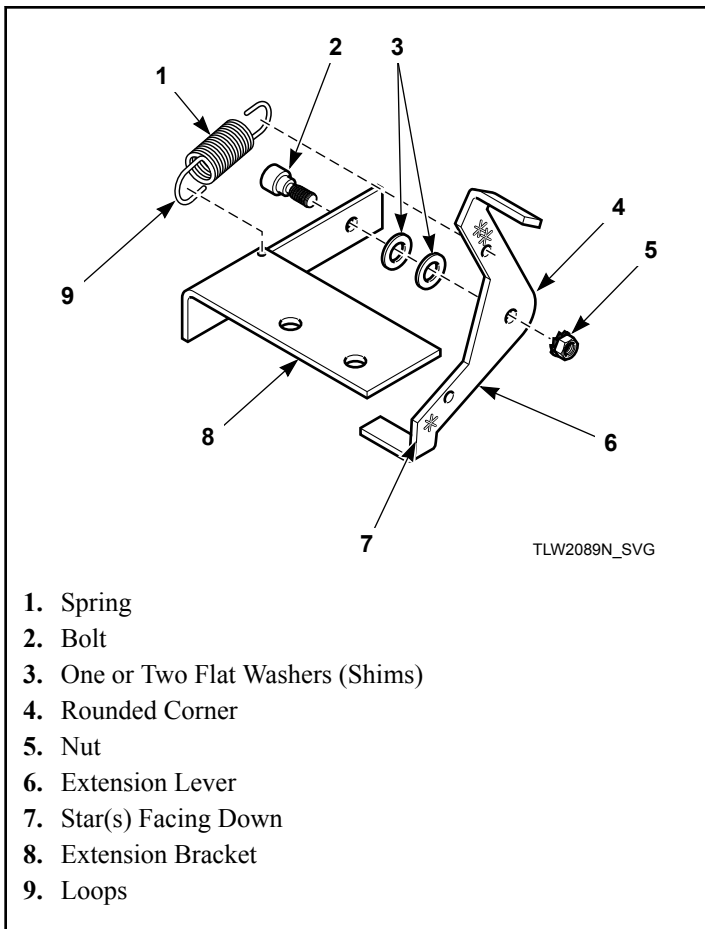

Figure 14
- Install extension lever with rounded corner facing away from extension bracket using bolt, one or two flat washers (shims) (use number of washers included in kit) and nut. Refer to *Figure 14*. Make sure washers are flat against bracket.
6. Install extension spring in bracket hole and hole in upper arm of lever. Refer to *Figure 14*.